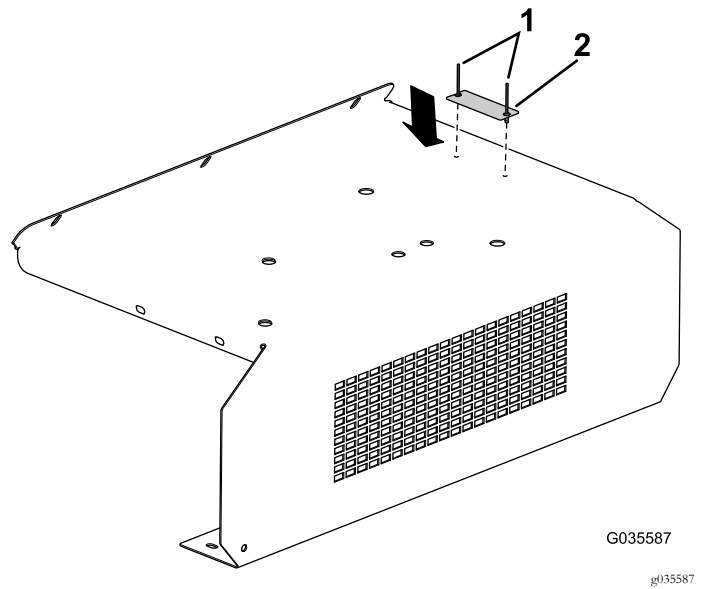

Figure 7
2. Remove the bolts and nuts securing the rinse guard to the machine (Figure 7).
- Install the previously removed serial plate onto the new rinse guard with 2 rivets (Figure 7).